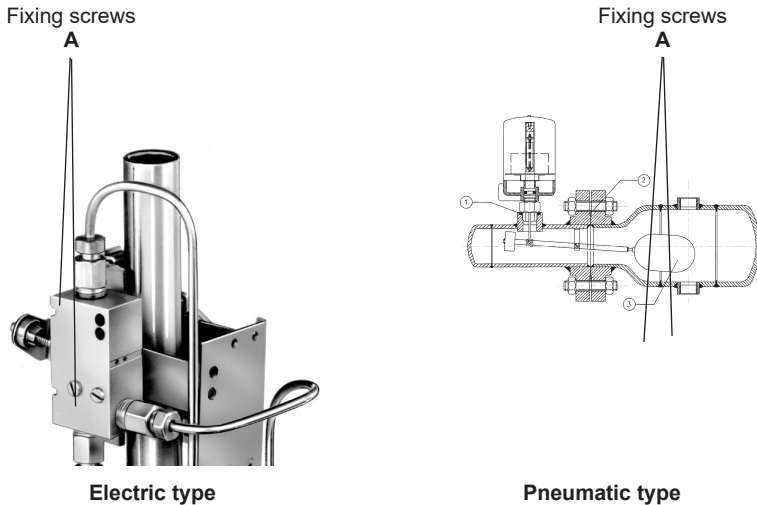

Fig. 6 - Switch mechanism
- 2 - Loosen the 2 fixing screws "A" of the plate (see Fig. 6 - Electrical type); take out then the switch mechanism from the non-magnetic pocket.
- 2 - Loosen the 2 fixing screws "A" of the mechanism (Fig. 6 - Pneumatic type) and take it out from the enclosing tube.